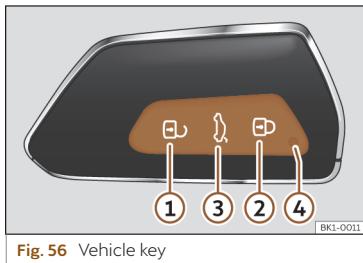

Fig. 56 Vehicle key
Key to >>> Fig. 56
When a button on the vehicle key is briefly pressed, the indicator lamp flashes ④ >>> Fig. 56 once briefly, but if the button is held down for a longer period it will flash several times, such as for convenience opening.